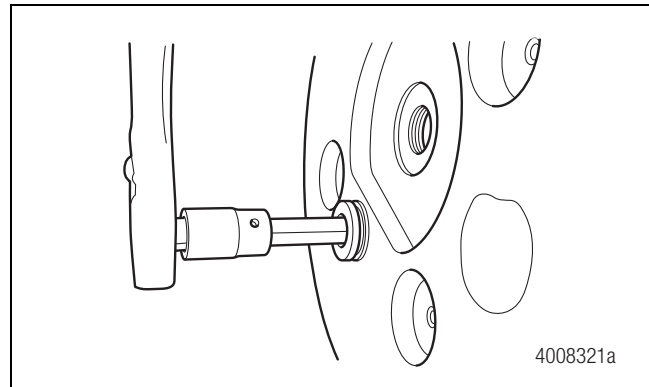

Figure 10.3
2. Install the wheel end drain plugs and tighten them to 60 lb-ft (81 N•m). Figure 10.3. **T**